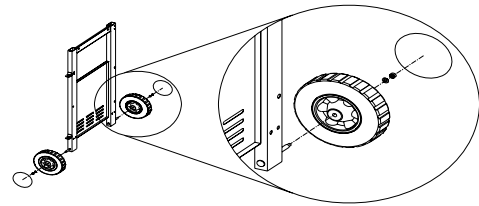

Figure 1
1. Attach the wheels to left side panel using (2) 1/4" hex nuts with (2) 1/4" flat washers. **Then snap the wheel caps onto the wheel hubs.** (Fig.1)